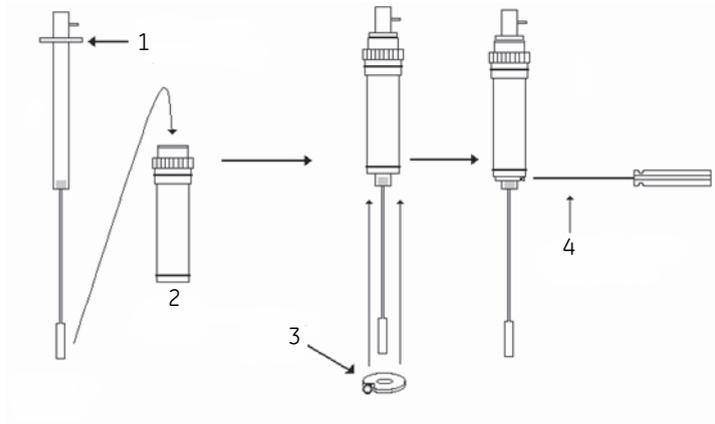

Figure 5-2. Pipette assembly.
- 1 Insert the injection syringe into the syringe holder until the top syringe clamp is firmly seated against the top of the syringe holder, being careful not to bend the needle against the inside of the holder (See *Figure 5-2*).
Table 5-2. Part in Figure 5-2.